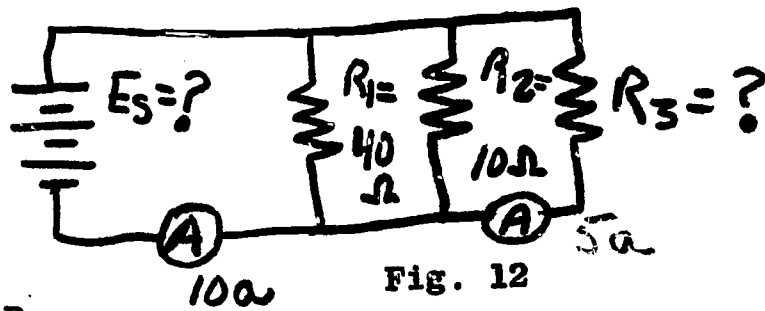

Fig. 12
*Find E_S in Fig. 12.
*In the circuit in Fig. 12, $R_3 =$